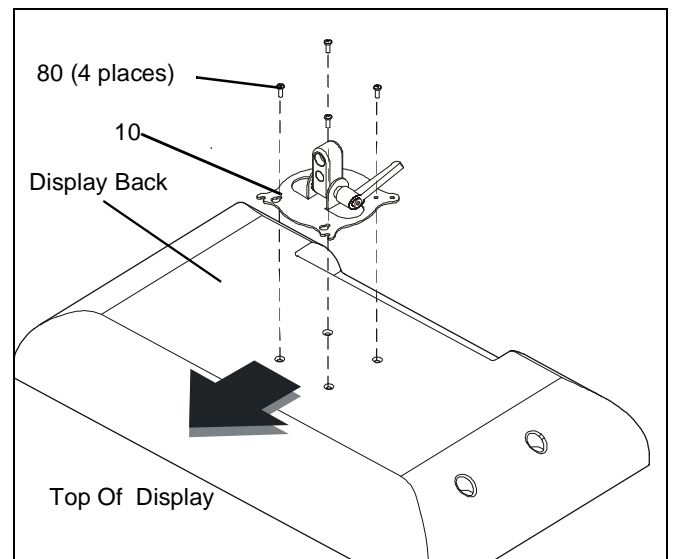

Figure 3
2. Orient extended pitch mechanism with display top. (See Figure 3)
3. Align four mounting holes in extended pitch mechanism (10) with four mounting holes in display back. (See Figure 3)
4. Secure extended pitch mechanism (10) to display using four M4 x 12mm Phillips pan head screws (80). (See Figure 3)